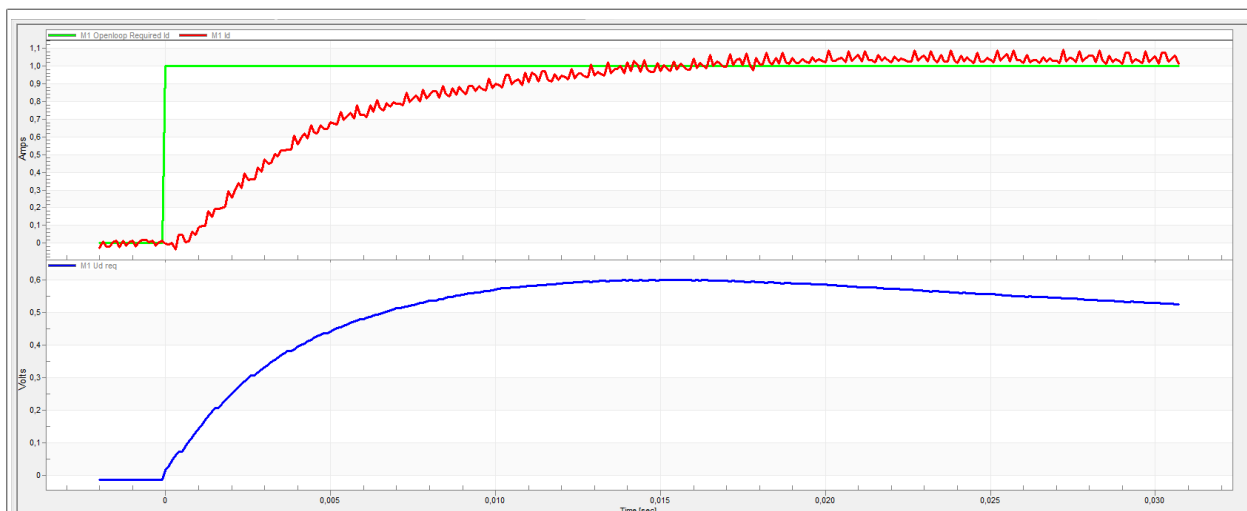

Figure 32. Slow step response of the Id current controller
- The loop bandwidth is low (100 Hz) and the settling time of the Id current is long (Figure 32).